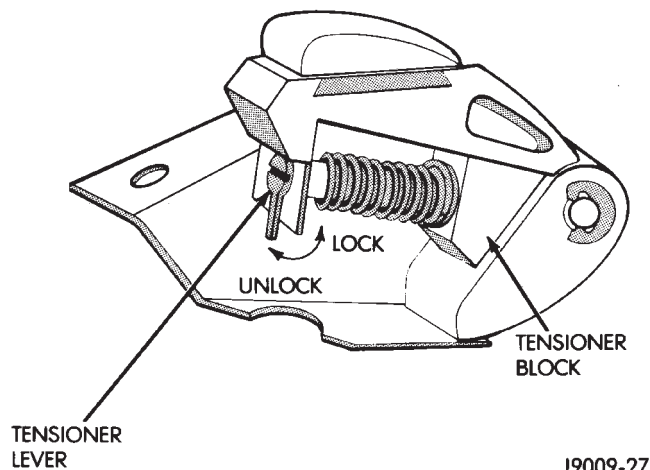

Fig. 45 Loading Timing Chain Tensioner
- (1) Turn the tensioner lever to the unlocked (down) position (Fig. 45).
(2) Pull the tensioner block toward the tensioner lever to compress the spring. Hold the block and turn the tensioner lever to the lock position (Fig. 45).
(6) Turn the chain tensioner lever to the unlocked (down) position (Fig. 45).
(7) Install the oil slinger.
(8) Replace the oil seal in the timing case cover.
(9) Install the timing case cover and gasket.
(10) With the key inserted in the keyway in the crankshaft, install the vibration damper, washer and bolt. Lubricate and tighten the bolt to 108 N·m (80 ft. lbs.) torque.
(11) Install the fan and shroud.
(12) Connect negative cable to battery.